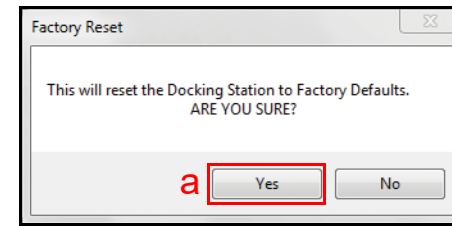
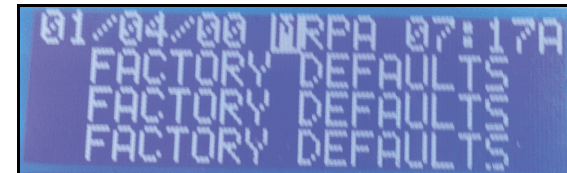

Figure 17 Factory Reset Confirmation Dialog Box
Figure 18 Factory Defaults LCD Display
- From the DSA Main Screen, click the Factory Reset  screen button. The Factory Reset dialog box (Figure 17) prompts for confirmation to reset the Docking Station to Factory Defaults.
- Click Yes (Figure 17 a). The Docking Station front panel Status LED is illuminated in WHITE, and the LCD panel (Figure 18) displays FACTORY DEFAULTS.